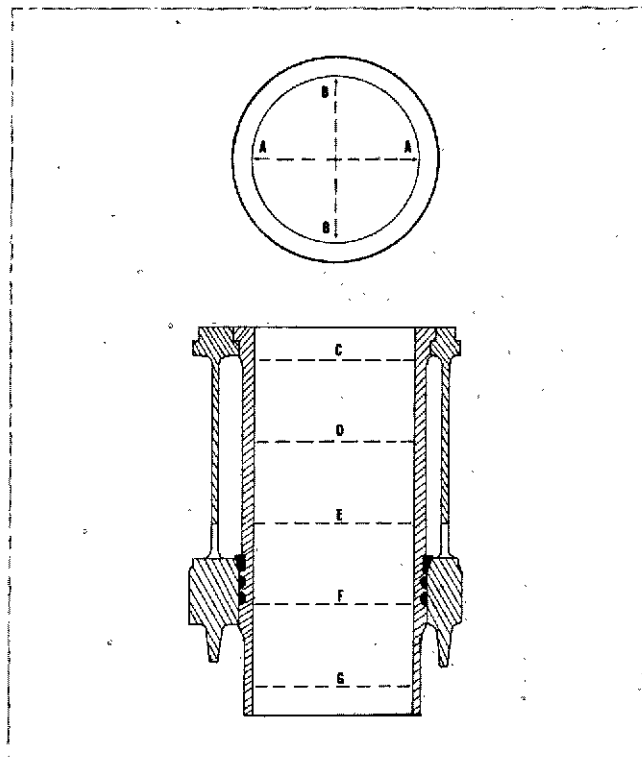

Fig. 14-1-19, V414122. Cylinder liner check points
4. With piston at lowest possible point, check liner bore for roundness at several points within range of piston travel. Fig. 14-1-19.
- b. Micrometer readings to be taken as near points at C, D, E, F and G along axis A-A and B-B as possible. Fig. 14-1-19.
- (1) At point "C," approximately 1 inch [25.4000 mm] below top of liner, it is permissible to have up to 0.003 inch [0.0762 mm] of out-of-round.
- (2) At other points, each about 2 inch [50.8000 mm] lower than preceding depth, out-of-round must not exceed 0.002 inch [0.0508 mm].